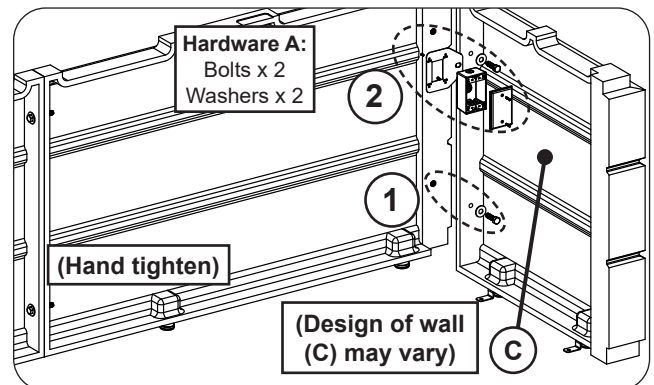
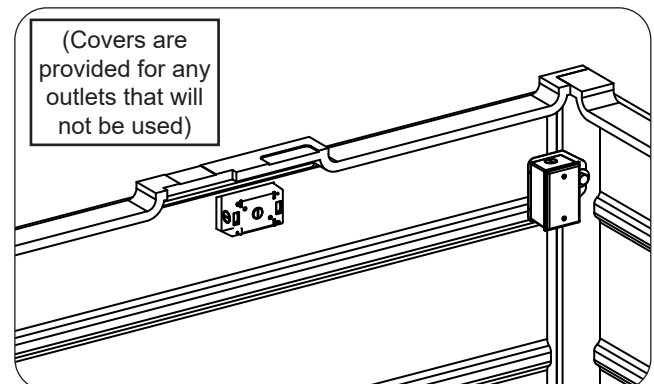

Fig. 8-3 Assemble right side wall and outlet box
Fig. 8-4 Right side wall and outlet box installed
1. Position the right side wall (C) and repeat the hardware installation process (hardware kit A) for the bottom hardware first. Ensure the top pilot holes are also aligned. Hand tighten only. See Fig. 8-3, step 1.
An outlet box assembly is provided and requires installation. Assemble the box as shown using a Phillips screwdriver, then repeat the hardware installation process (hardware kit A) to secure both the top of the right wall and the outlet box in place. Hand tighten only. See Fig. 8-3, step 2 and Fig. 8-4.